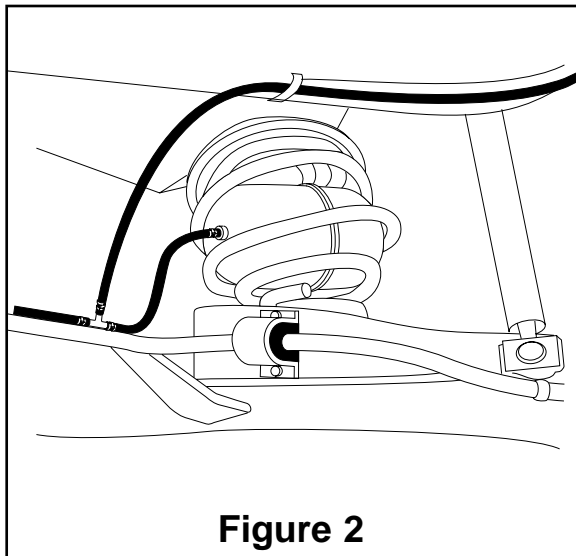

Figure 2
4. Insert flattened air cylinder into coil spring between second and third coil with valve stem to the side (Figure 2).
6. When cylinder is completely within the coil, locate stem toward center of vehicle spaced equally between the second and third coil. Remove the cap and allow the cylinder to assume it's "as molded" shape (Figure 2).
If the vehicle has a rough and harsh ride it may be due to either too much pressure or not enough (fig. 2). Try different pressures to determine the best ride comfort.